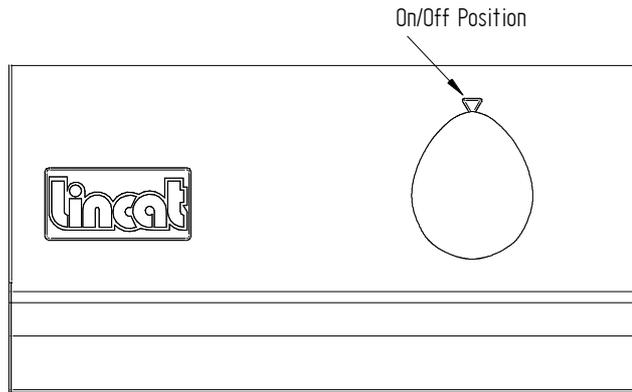

Fig 1.
1. Ensure that the thermostat control knob (see fig 1.) is in the OFF position.
7. To operate the main burner, turn the thermostat control knob (see fig 1.) to the required temperature setting.